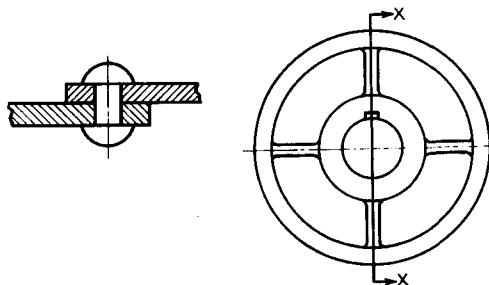
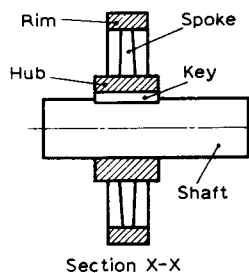
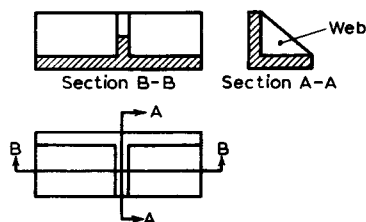

Fig. 3.43
Fig. 3.44
Fig. 3.45
*Parts not sectioned.* The following parts are not sectioned when they lie in the plane of the section but they are shown in outside view: nuts, bolts, screws, washers, studs, pins, rivets (see Fig. 3.43); shafts, keys, cotters and spokes (see Fig. 3.44). Ribs and webs (see Fig. 3.45) which are cut parallel to the face of the rib or web are not sectioned. They are sectioned, however, if cut across the rib or web.